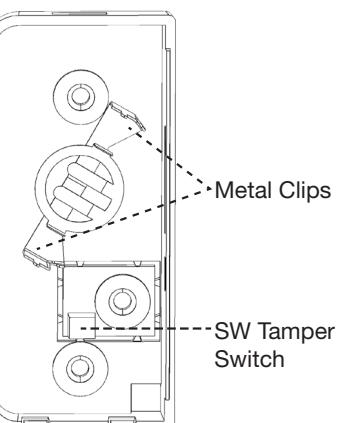

Figure 3
2. Place a small flathead screwdriver in the slot between the metal clip (see **Figure 3**) and the battery and twist the screwdriver slightly while holding back one of the black plastic edges holding the battery.
3. Insert the replacement battery with the + sign facing out (see **Figure 3**).
**WARNING!** The polarity of the battery must be observed, as shown (see **Figure 3**). Improper handling of lithium batteries may result in heat generation, explosion or fire, which may lead to personal injuries. Replace only with the same or equivalent type of battery as recommended by the manufacturer (see **Specifications**).